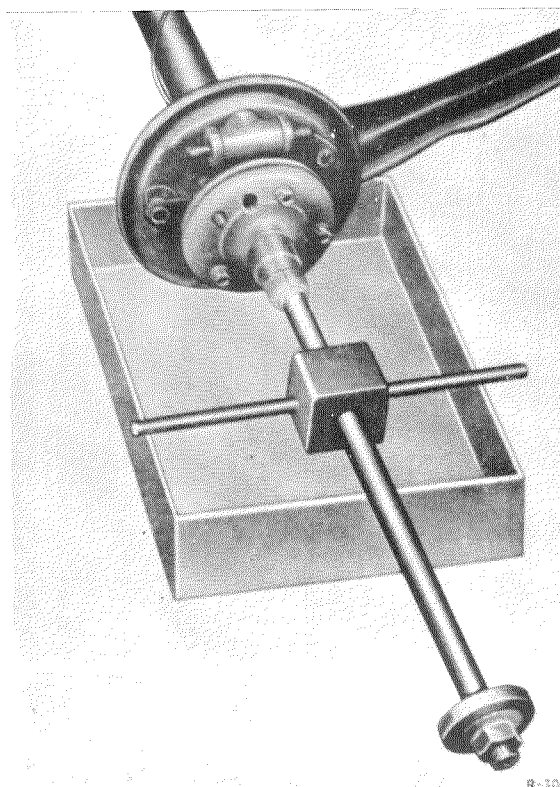

Fig. 35—4/1
6. Unscrew the fixing screws of the brake anchor plate, using Socket Wrench 136 589 07 09 and use Puller 136 589 18 33 to force out the rear axle shaft together with the brake anchor plate with seal retainer (Fig. 35—4/1).